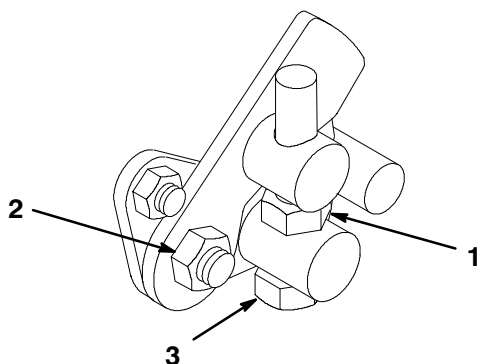

Figure 42
1. Loosen the jam nut on the trunion capscrew (Fig. 42).
4. Tighten the jam nut on the trunion capscrew and the nut on the pedal pivot to lock the adjustment (Fig. 42). Check the adjustment and adjust as required.